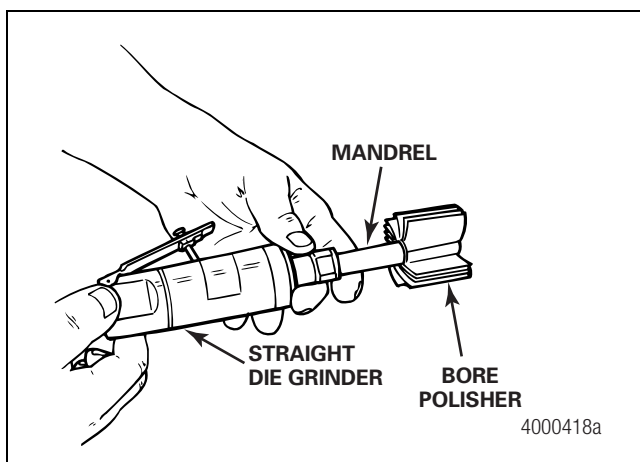

Figure 2.9
6. Choose the correct sized bore polisher by matching the axle manufacturer and model to the bore polishing tools listed in Section 8. Figure 2.9.